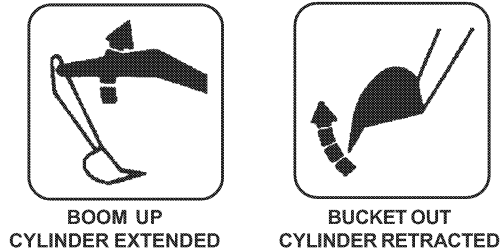

FIGURE 3.5
3. Fully extend Boom Cylinder. See Figure 3.5.
4. Fully retract Bucket Cylinder. See Figure 3.5.